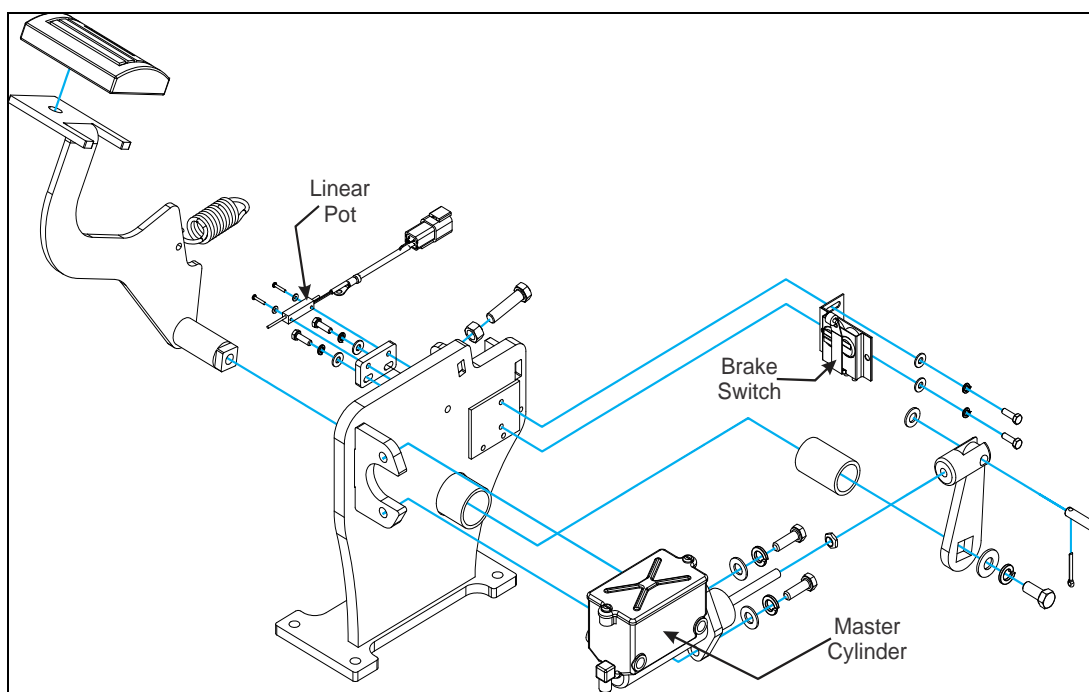

Figure 3-25: Brake Switch Assembly
3. Slightly loosen both brake switch hex head screws. See Figure 3-25.
6. Unscrew and remove the switch assembly from the brake pedal frame and install the new switch. See Figure 3-25.
6. Remove the master cylinder fill cap and rubber diaphragm (two round head screws). See Figure 3-25.